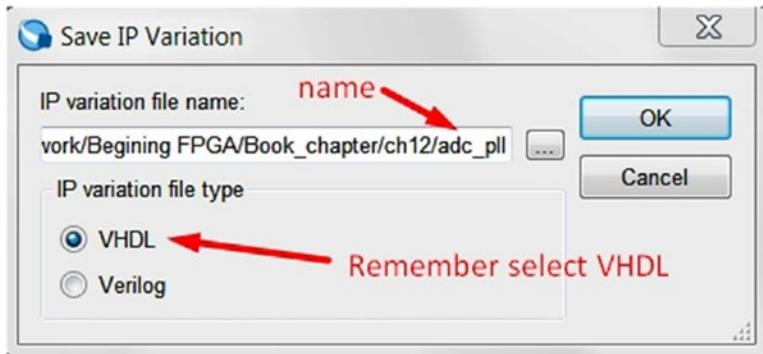

Figure 12-17. Save IP Variation for `adc_pll`
Step 2: A new IP variation window will appear as in Figure 12-17. Enter **adc_pll** at the end of the IP variation file name. Select **VHDL**. Click **OK**.